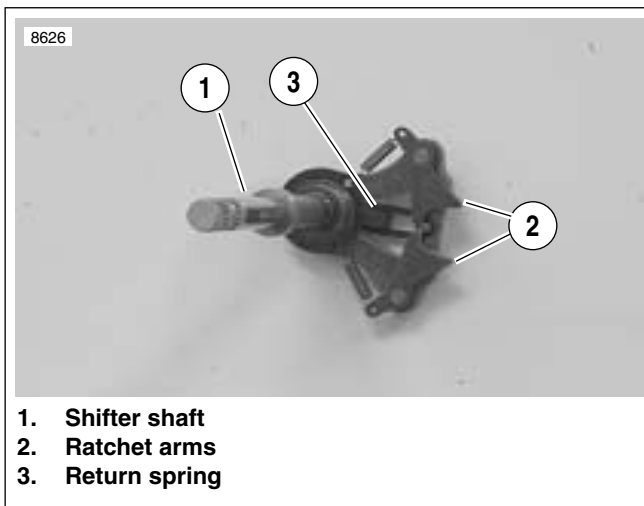

Figure 6-47. Shifter Shaft Assembly
10. See Figure 6-47. Remove shifter shaft assembly.